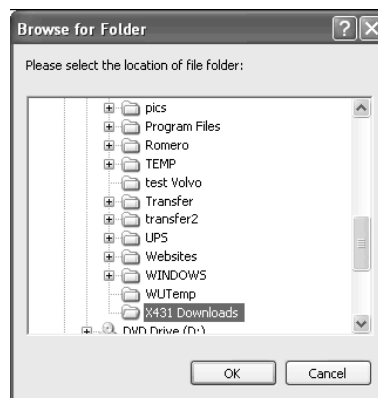

Figure 3-25
- a. Select the correct folder, and click OK (see figure 3-25)(C: -> X431MASTER Downloads)